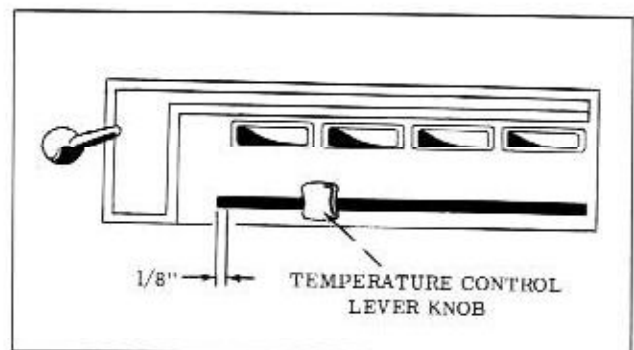

Fig. 16-22 Temperature Control Adjustment
3. Move the THERMOSTAT lever to the closed position (fully to the right). Position the cable conduit until the temperature control lever is 1/8" from the left end of the slot in the control assembly on the instrument panel. (Fig. 16-22)
2. Move lever 1/8" from left end of slot. (Fig. 16-22)